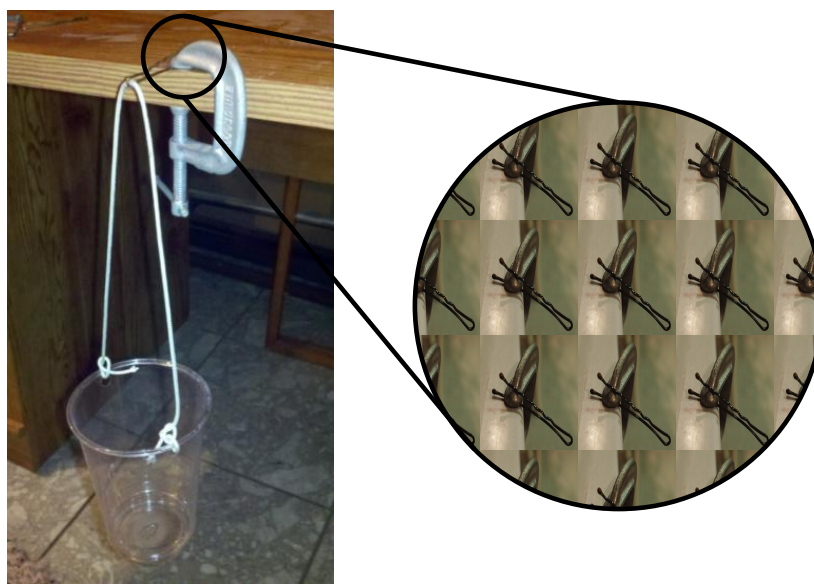

Figure 1. Test set-up
8. Set up the control bobby pin as shown in Figure 1. Be sure that the cup and string are hanging from the end of the bobby pin.
22. Set up the annealed bobby pin as shown in Figure 1.
29. Set up the quenched bobby pin as shown in Figure 1.